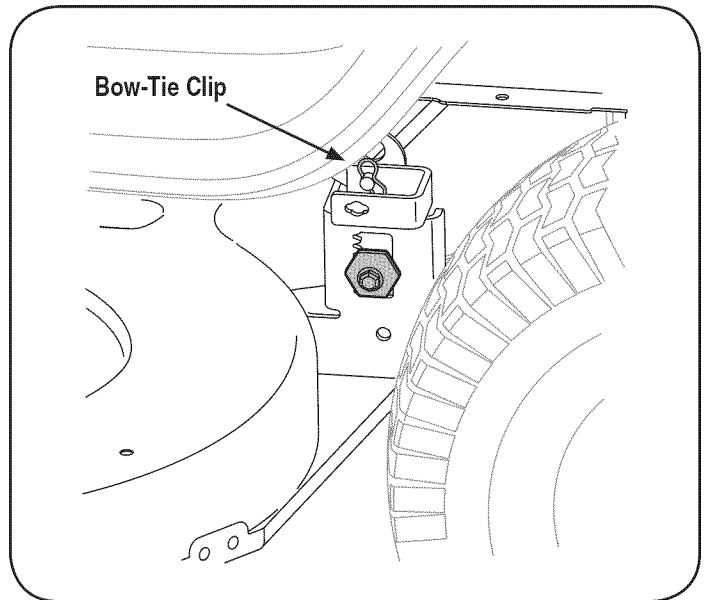

Figure 18
5. Looking at the cutting deck from the left side of the tractor, locate the bow-tie pin that secures the deck support rod on the rear left side of the deck. See Fig. 18. Remove the bow-tie pin that secures the deck support rod, and carefully remove the deck support from the deck lift arm.